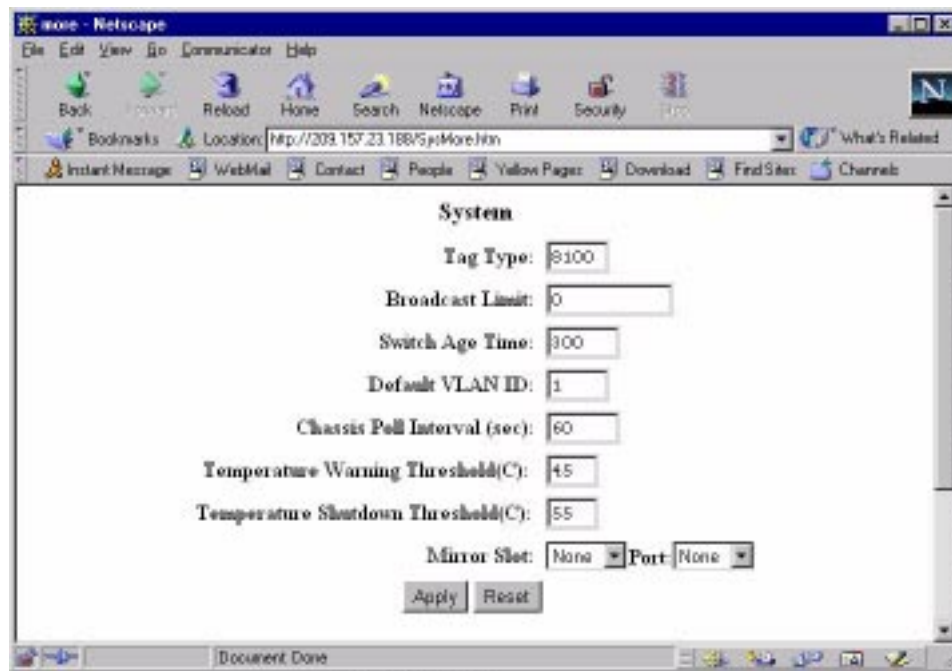

Figure 3.6 System panel for advanced system parameters
2. Select the Advance link to display the panel shown in Figure 3.6.